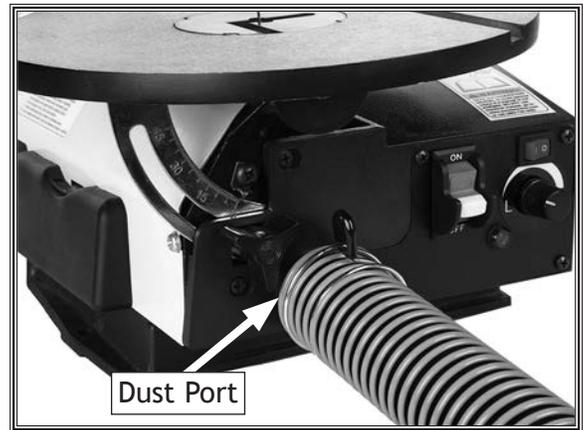

Figure 15. Dust port connected to dust collection system.
1. Fit a 1 1/4" dust hose over dust port, as shown in **Figure 15**, and secure in place with hose clamp.